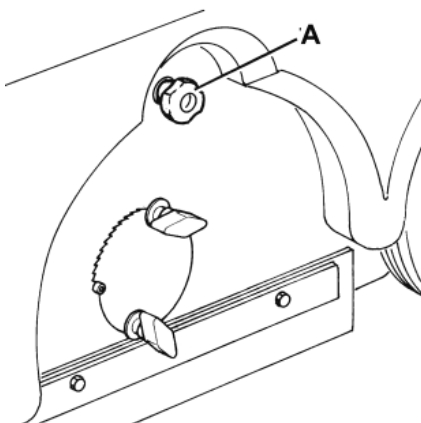
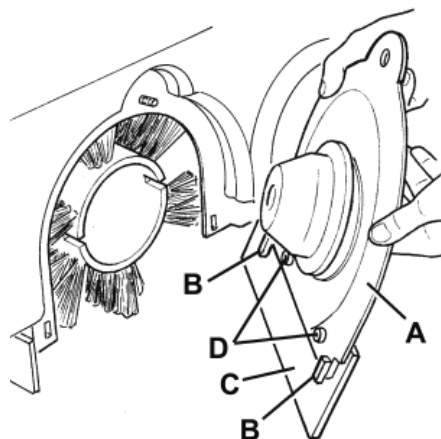

Figure 14
Figure 15
1. Loosen the knob (A, Fig. 14) and remove the broom left door (A, Fig. 15), pulling it upwards to disengage the fasteners (B).
2. Adjust the height of the skirt (C) by using the slots (D).